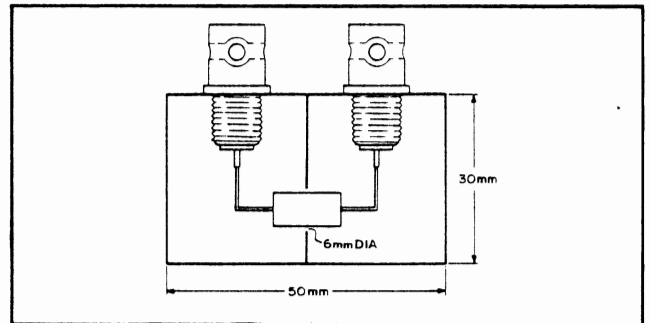

Figure 5-3. Special Resistor
- a. The Standard Capacitors and the special resistors listed in Table 5-1 should be used. The stray capacities of the special resistors are compensated as shown in Figure 5-3.
- c. Connect the 100nF Capacitor and the 5kΩ special resistor to the UNKNOWN connectors as shown in Figure 5-3.